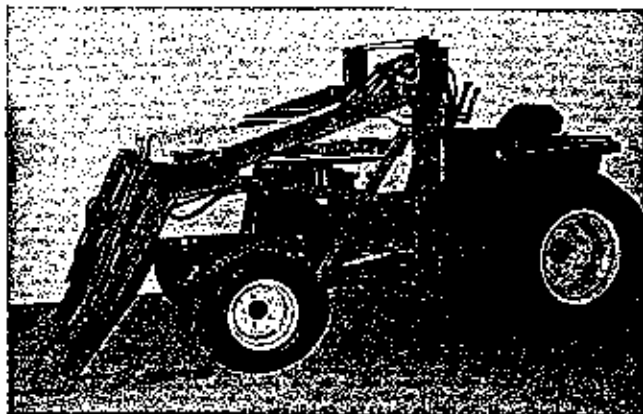
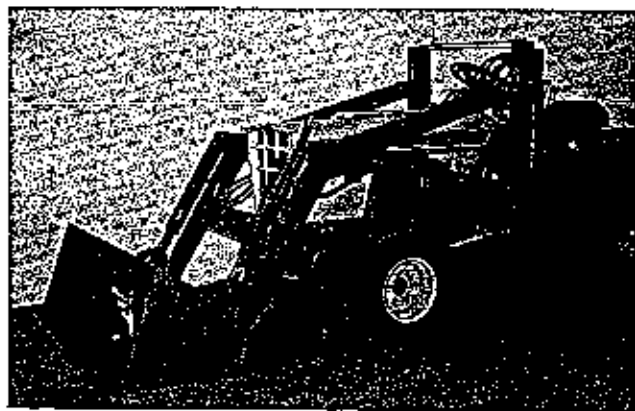

Figure 7
Figure 8
6. Drive or push tractor into loader assembly. Remove right dismount stand. Loader will stand with just the left dismount stand in place, provided the bucket or other attachment is installed to stabilize. Figure 7. Then from left side, remove left dismount stand and lower onto cross member as in Figure 8. Install bolts furnished in left and right uprights, but do not tighten. Install the left and right angle iron braces removed in instruction No. 1 to the uprights and to the mounting
8. Connect the two hoses from pump to control valve and reservoir as in Figure 8. These have quick disconnect couplers. At this time all hose connections should be checked for tightness. Fill reservoir in left upright with three (3) quarts of Type A hydraulic oil, then start engine. Engage front P.T.O. clutch and operate lift and tilt cylinders to start filling lines. Add two and one-half (2½) quarts hydraulic oil to complete the system. Operate all cylinders through their full range several times. This will bleed the air from the hydraulic system.